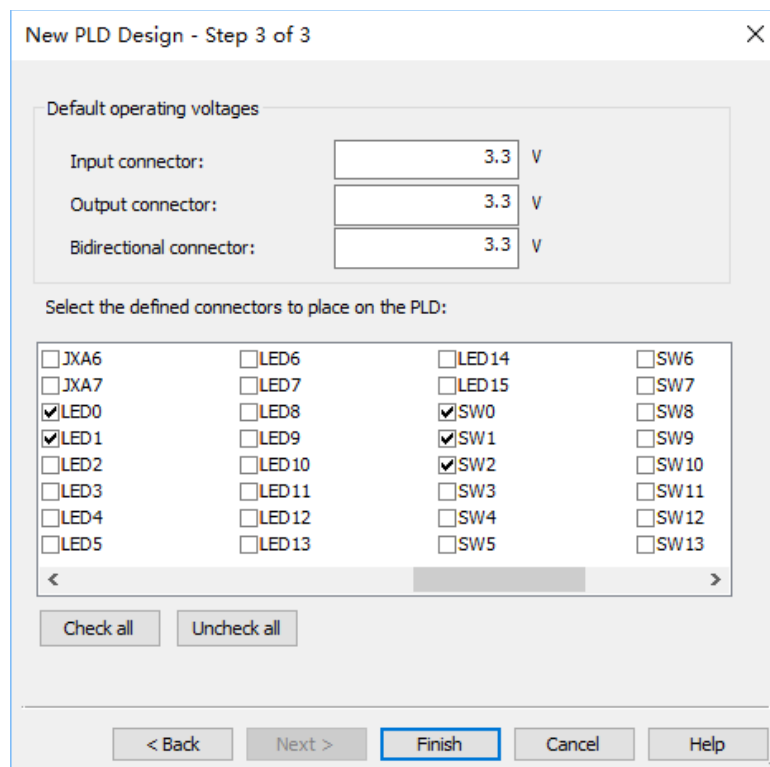

Figure 3. Choosing I/O resources on an FPGA board
- In the “New PLD Design – Step 3 of 3” window, check the I/O resources on the Basys 3 FPGA board that you plan to used for the inputs and outputs of your circuit; in this lab, we will use SW0, SW1, SW2 for the three inputs A, B, C, and LED0 and LED1 for the two outputs Sum and Carry, as shown in Figure 3;